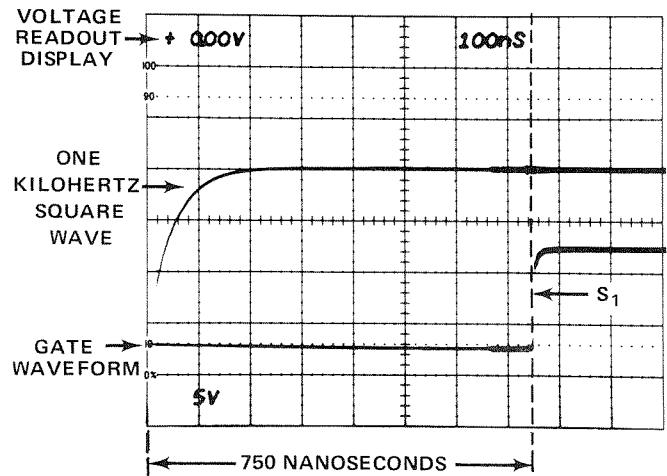

Fig. 3-6. P6055 Probe low frequency compensation point.
19. Adjust the Delay Time Multiplier control to position the S_1 measurement point 750 nanoseconds after the square-wave step function begins. See Fig. 3-6.